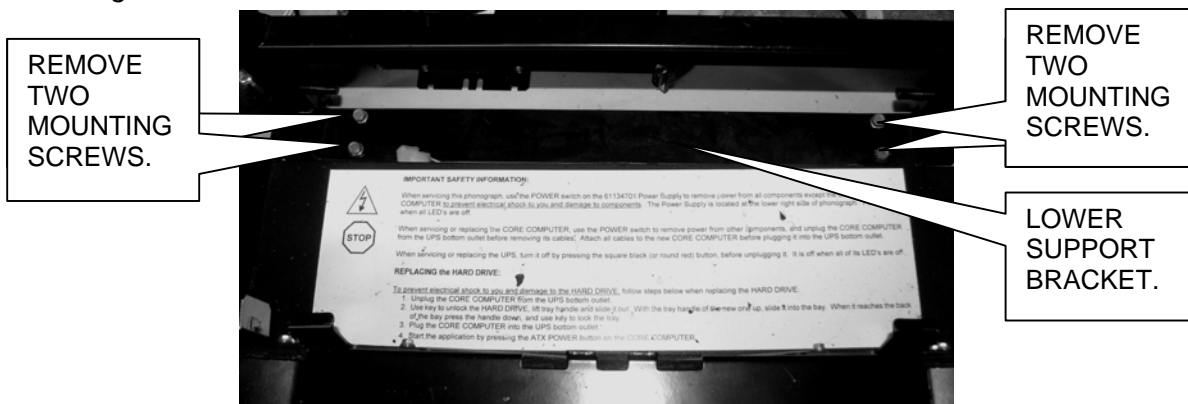

Figure 6 Removing the Lower Monitor Support Bracket
- Remove the lower Monitor Support bracket by removing the four screws shown in *Figure 6*.